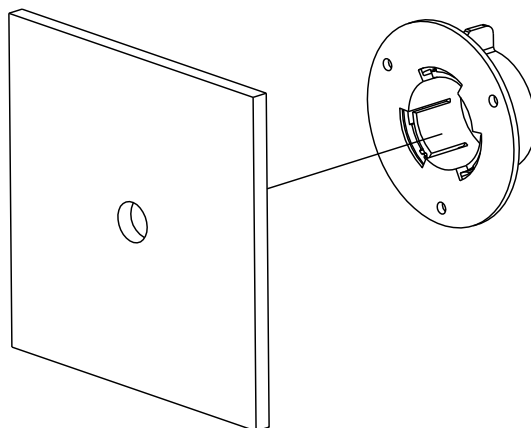

Figure 6-12 Paste the Bracket
2. Remove a side of the adhesive tape on the bracket. Paste the bracket on the mounting surface with aligning with the drilling hole. As shown in Figure 6-12.